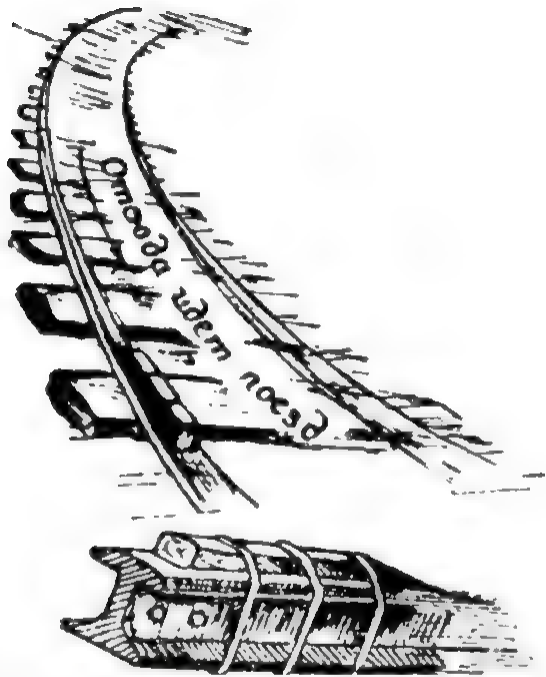

Figure 17. How to derail a train using a wedge
**Fourth method.** This is the most complex method and requires preparation in advance. It is used on the curves of the railroad tracks. Make a straight wedge out of a piece of dry hardwood (oak) that is 80 centimeters long, 7 centimeters thick and 5 centimeters wide. Cut one side of the wedge at an angle as shown (Figure 17). Secure the wedge with wire to the top of the outer track at the curve so that the angled cut will face the oncoming train. When the train approaches the wedge, the locomotive's leading wheel will run up the wedge. The locomotive will not make the turn,